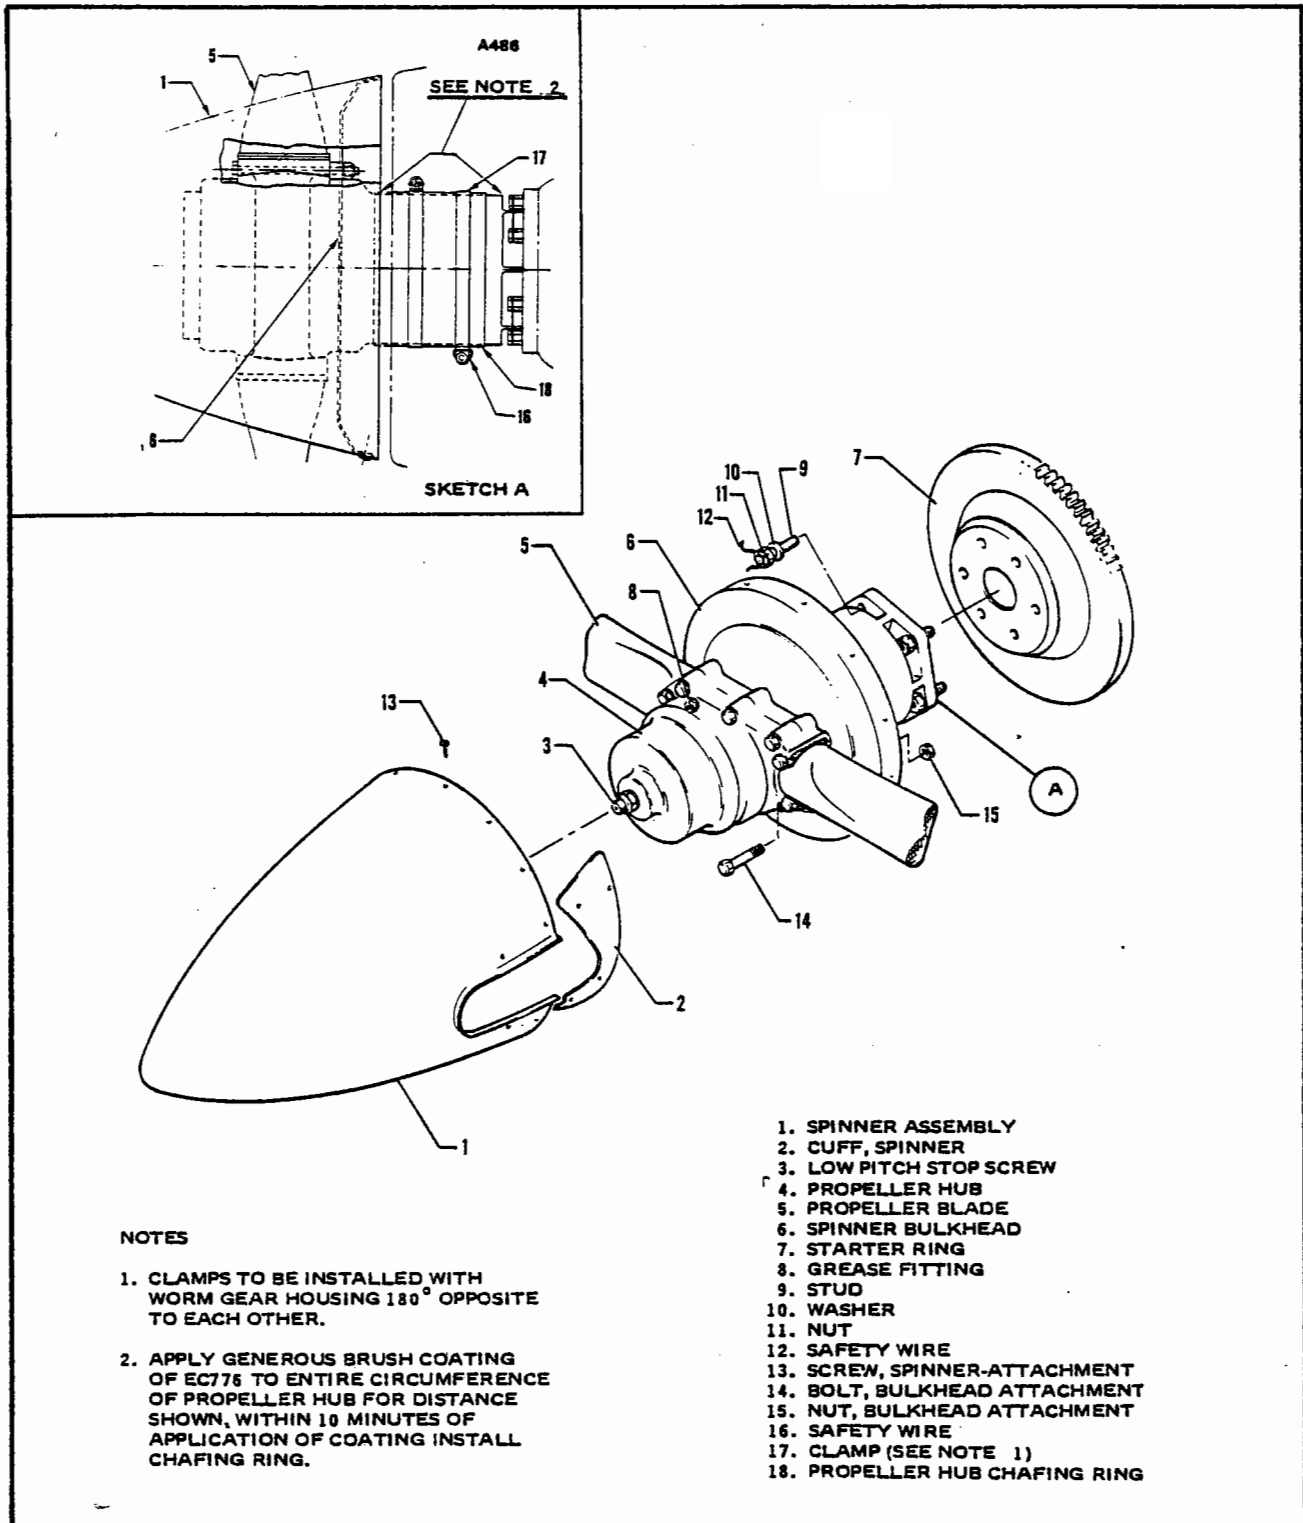

Figure 61-4. Propeller Installation (PA-32-301T)
8. Apply a generous brush coating of EC776 adhesive to the entire circumference of propeller hub for distance as shown in Figure 61-4, Sketch A.
10. Install and secure clamps around chafing ring. (Refer to Figure 61-4, Sketch A for proper installation.)